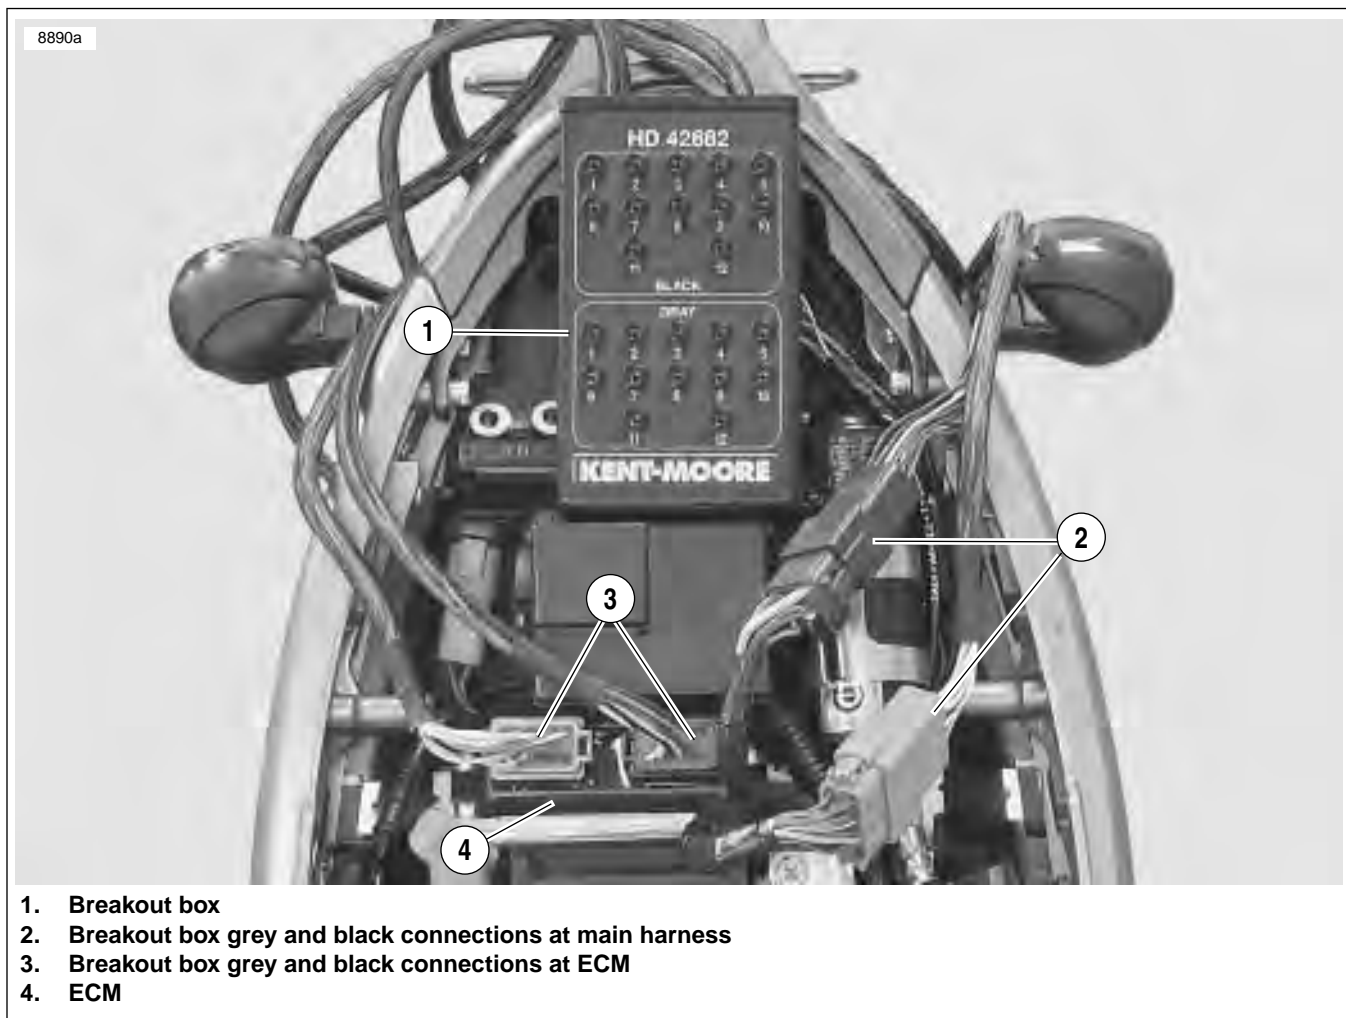

Figure 4-9. ECM and Breakout Box with Connections (Typical)
- See Figure 4-9. Attach Breakout Box (2) to black connector [10].
- See Figure 4-9. Depress latches on each side of connectors [10] (black) and [11] (gray).